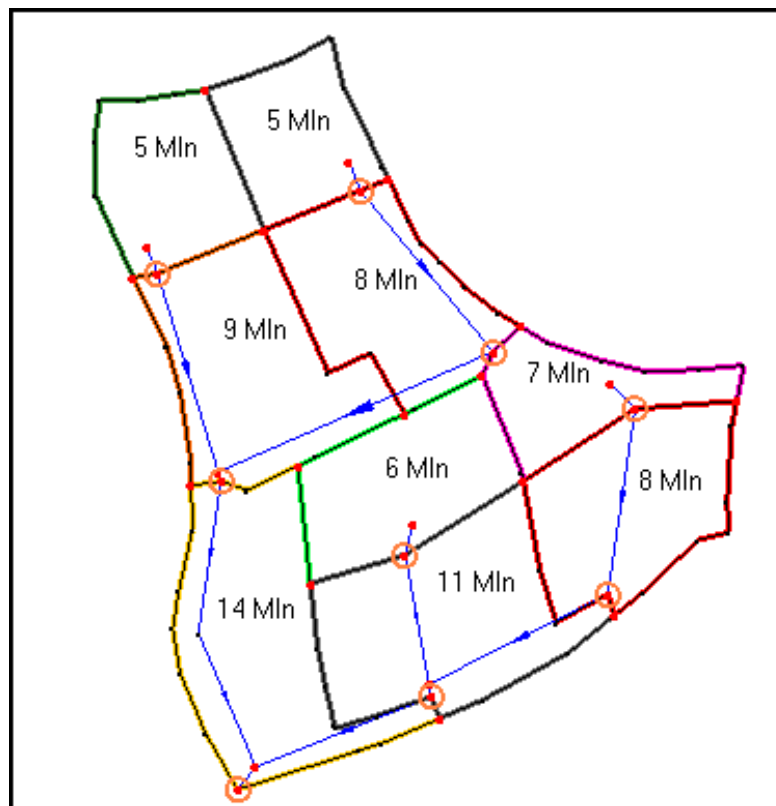

Figure 5-3: TC values for the drainage areas.
5. Select each of the remaining drainage basins and assign Time of Concentration values using Figure 5-3 as a guide